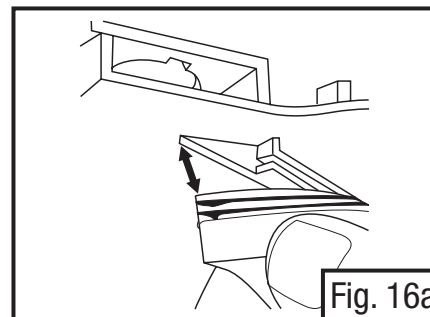

Fig. 16a
- To install forehead seal, grasp the black gasket and align with headgear according to Fig. 16a.